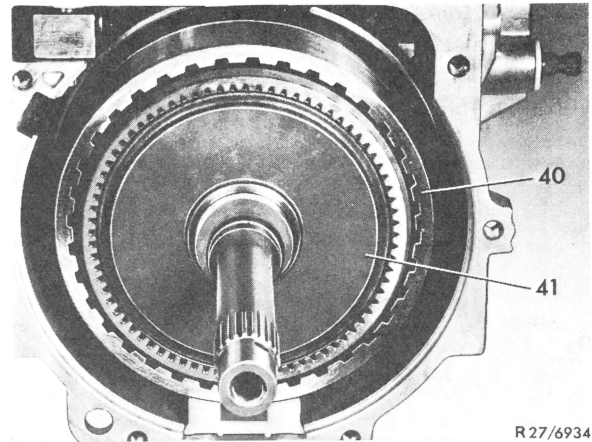

Fig. 12
**16** Remove brake band B 3 (38) in forward direction.
**17** Pull drive shaft (41) out of gear assembly (40) (Fig. 12).